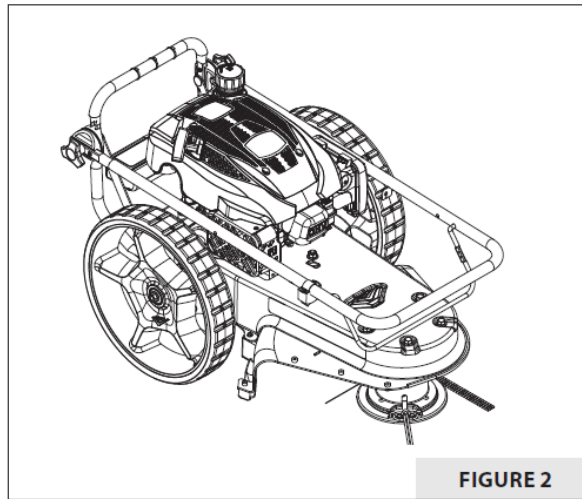

FIGURE 2
4. Pull the mower out of the carton. SEE FIGURE 2